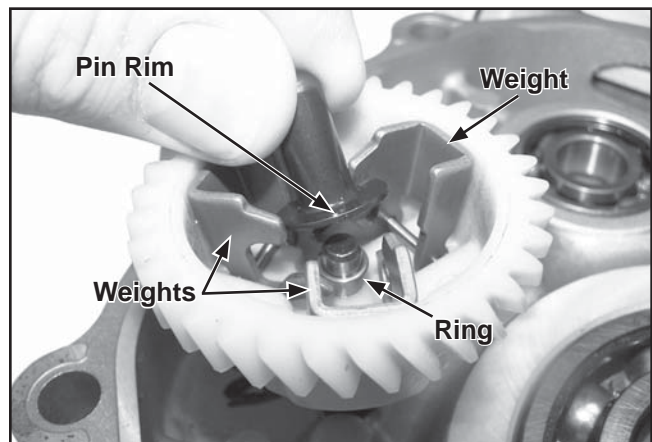

Figure 11-15. Install Governor Gear.
4. Pull the governor gear up until it makes contact with the ring, then place the pin in the cup, retaining the rim with the weights. See Figure 11-15.